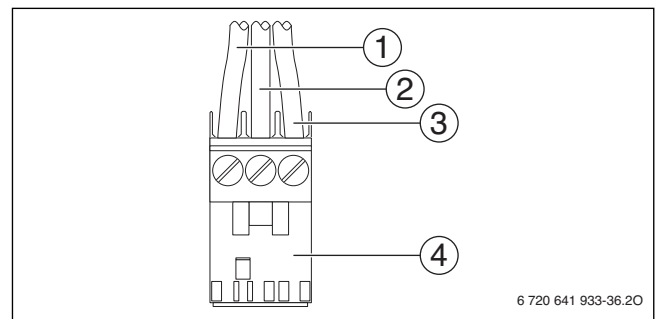

Fig. 58 Attach plug (mains power supply)
- Connect cable to **the white plug** according to Fig. 58.
- Connect the lead labeled BOILER GROUND (green) to pin 2 (center, → Fig. 58 [2]) of the white plug in the boiler junction box.